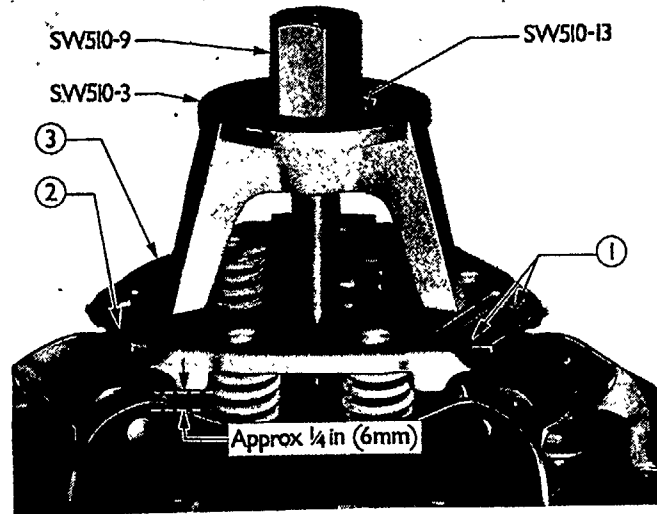

Figure 34
6. Install the Spring Compressor Bridge, SW510-3, Washer, SW510-13, and the Spindle Nut, SW510-9, as shown in Figure 34.
8. Tighten the spindle nut to compress the springs until a gap of approximately $\frac{1}{4}$ in. (6 mm.) is produced between the corner of the spring retainer and the cover, see Figure 34, when the links may be disengaged from the spring retainer.
4. Position the spring retainer on the pressure springs being sure the springs are centered in the spring seats, Figure 34.